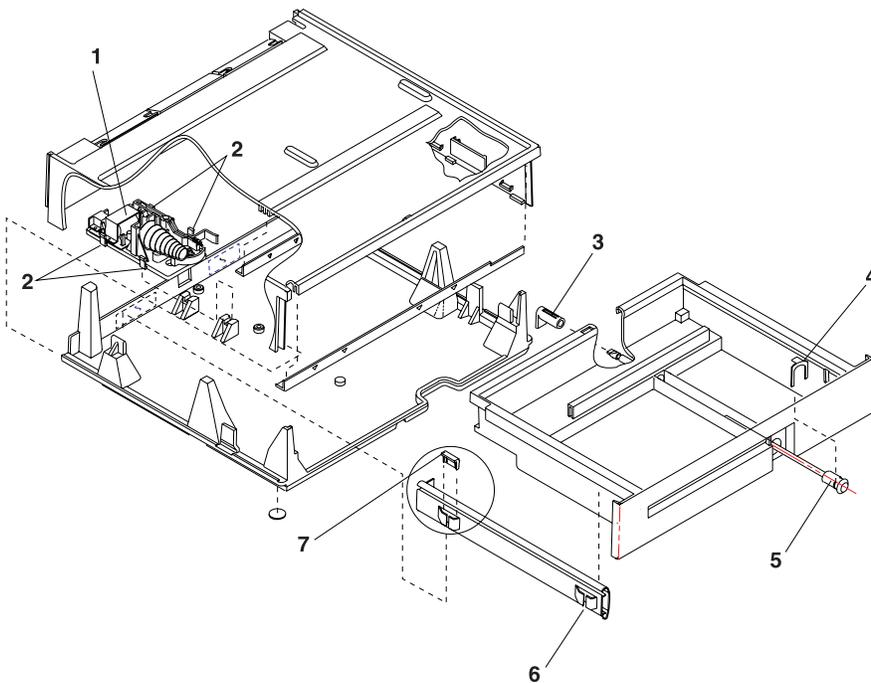

Figure 2-3. Cash Drawer Assembly
- 3 Pry the wedges (7) up and remove them. The wedges are at the front and rear of the slide assembly. See Figure 2-3.
- 4 Lift the slide assembly (6) out of the frame.
- 6 Put the wedges (7) in the slots and press them down to lock them in place. The wedge slots are at the front and rear of the slide assembly.
- 3 Pry out on the latches (2) one at a time to free them. See Figure 2-3.
- 4 Lift the assembly (1) out of the base.
- 5 To exchange the latch and sensor assembly, position it in the base and press down until the latches (2) lock into place.